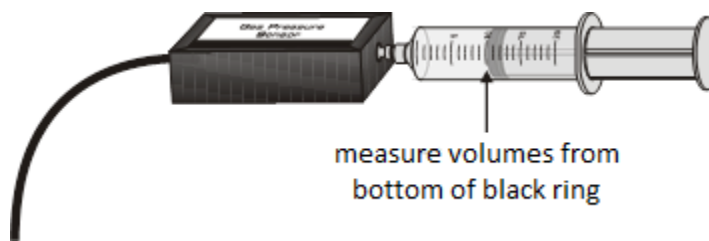

Figure 1. Syringe connected to pressure sensor.
4. With the syringe disconnected from the pressure sensor, slide the plunger of the syringe so that the first black rubber gasket (the base of the rubber “cone”) rests on the 10 mL line. Connect the syringe directly to the port on the pressure sensor with a gentle twisting motion – do not over-tighten (see Figure 1). If the syringe or the pressure sensor has been damaged from overtightening (by a previous student), you may use Parafilm to form an air-tight seal between the syringe and the pressure sensor. For the remainder of the experiment, do not unscrew the syringe from the gas pressure sensor or remove the piston from the syringe. The air that is trapped inside the syringe will serve as the “gas” for your experiment.